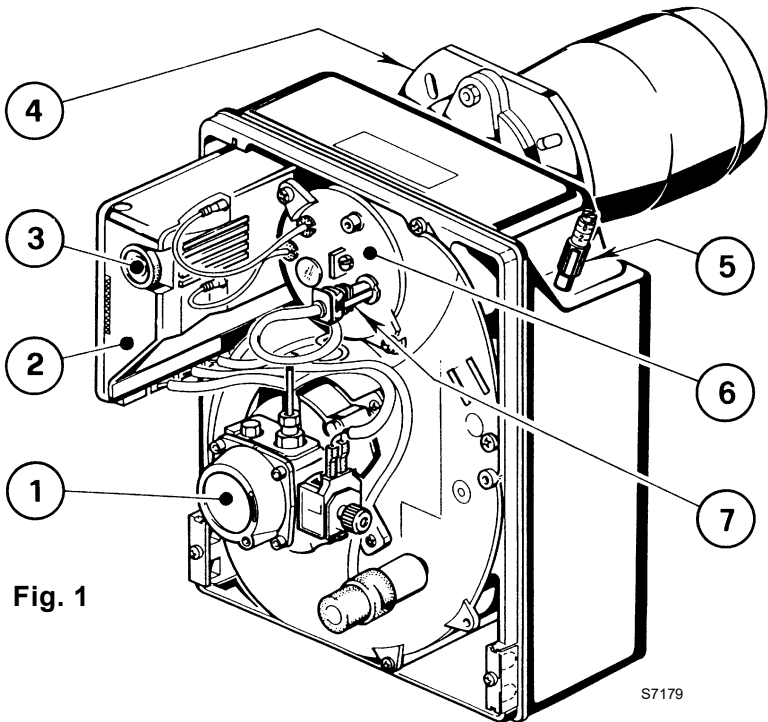

Fig. 1
- Clean the flame sensor, (7, Fig. 1, Page 1).
A fault usually makes the lock-out lamp light which is situated inside the reset button of the control box (3, Fig. 1, Page 1).